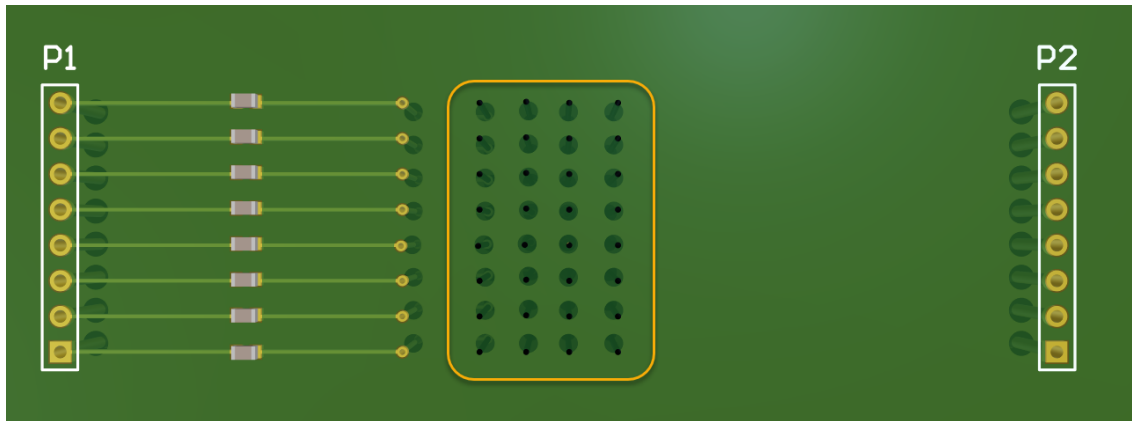

Figure 10. Top of PCB in 3D view showing holes without metal for the Back Drilled vias
24. Hit **OK** and close the *PCB Rules and Constraint Editor* to see the effect on the PCB vias. In 3D, there are holes for the internal vias but no metal showing on the top as this would be removed by the Back Drilling Operation, Figure 10.